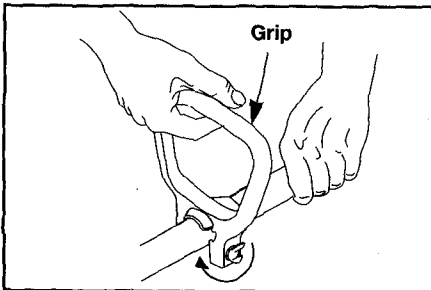

Fig. 2
3. Position the D-handle as desired and tighten the wing nut (Fig. 2).